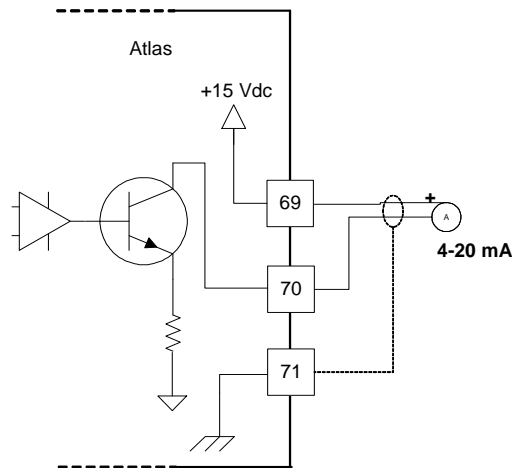

Figure 4-13. Wiring Example—Analog Output Interface to the SmartCore CPU A5200 Board
- Refer to Figure 4-13 for actuator output wiring.